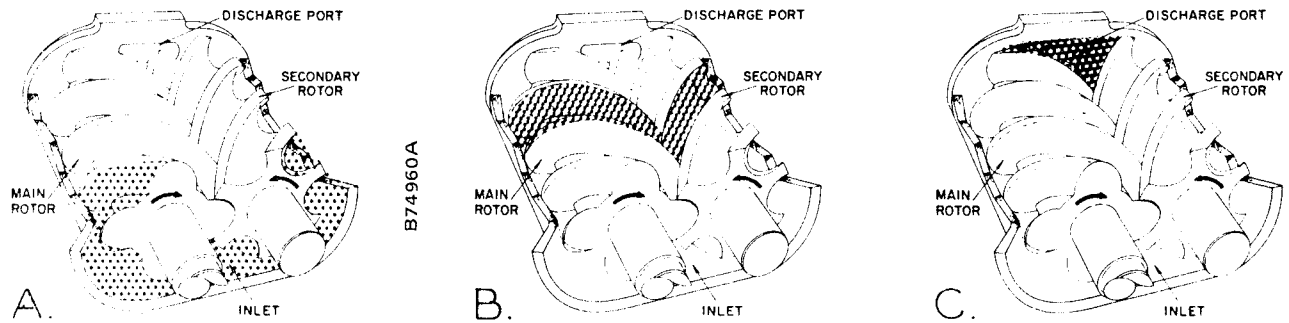

FIGURE 1-1. – COMPRESSION CYCLE
**COMPRESSION PRINCIPLE** (Figure 1-1) – Compression is accomplished by the main and secondary rotors synchronously meshing in a one-piece cylinder. The main rotor has four helical lobes 90° apart. The secondary rotor has six matching helical grooves 60° apart to allow meshing with main rotor lobes.
The air inlet port is located on top of the compressor near the drive shaft end. The discharge port is near the bottom at the opposite end of the compressor cylinder. Figure 1-1 is an inverted view to show inlet and discharge ports. The compression cycle begins as rotors unmesh at the inlet port and air is drawn into the cavity between the main rotor lobes and secondary rotor grooves (A). When the rotors pass the inlet port cutoff, air is trapped in the interlobe cavity and flows axially with the meshing rotors (B). As meshing continues, more of the main rotor lobe enters the